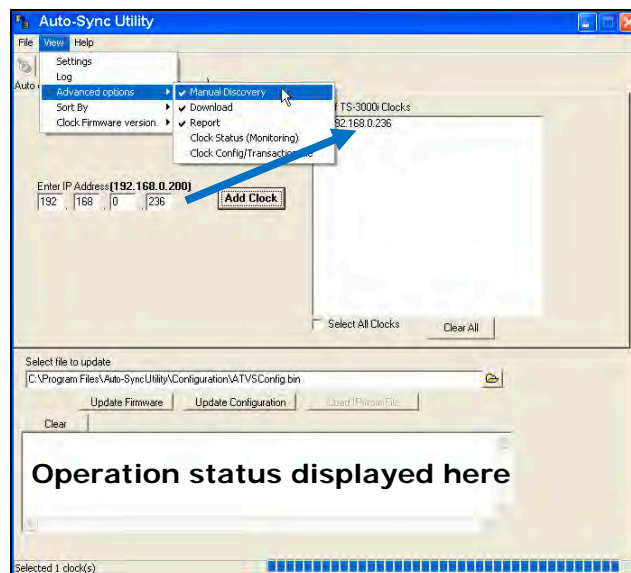

Figure 5-13. Manual Discovery Download.
- With the **Advanced options** → **Download** open, click on **View** → **Advanced options** → **Manual discovery** to enter the IP Address for the desired clock, and press the  button to add the clock to the list of Auto-Sync Time Clocks (see *Figure 5-13*). Use this same procedure to manually add other Auto-Sync Time Clocks to the list.